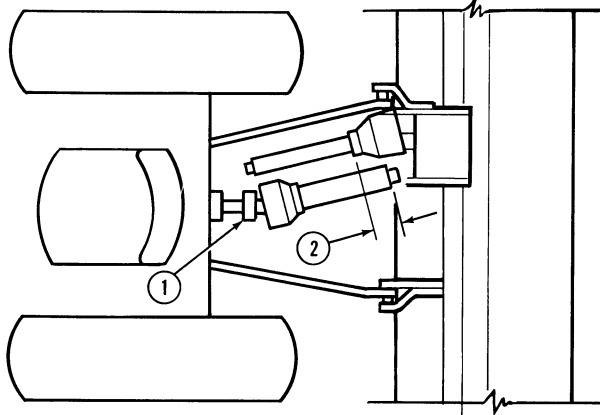

Figure 15
6. Determine the excess driveshaft length by measuring from the rearmost edge of the front half shield to just behind the bell-shaped shield on the rear driveshaft half as shown at (2), Figure 15.